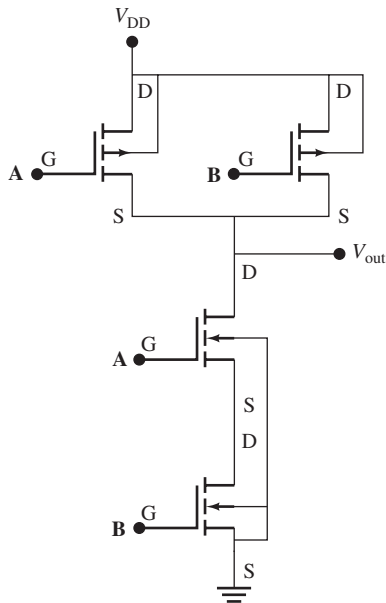

FIGURE P8.64 A CMOS circuit that functions as a gate.
- 8.64 (A)* Sketch the truth table of a two-input OR gate for the circuit shown in Figure P8.64. That is, determine the output voltage, V_{out} , in terms of inputs A and B when they are high (1) or low (0), for example, when both are 0, when both are 1, and when one is 0 and the other is 1. What is this operation?